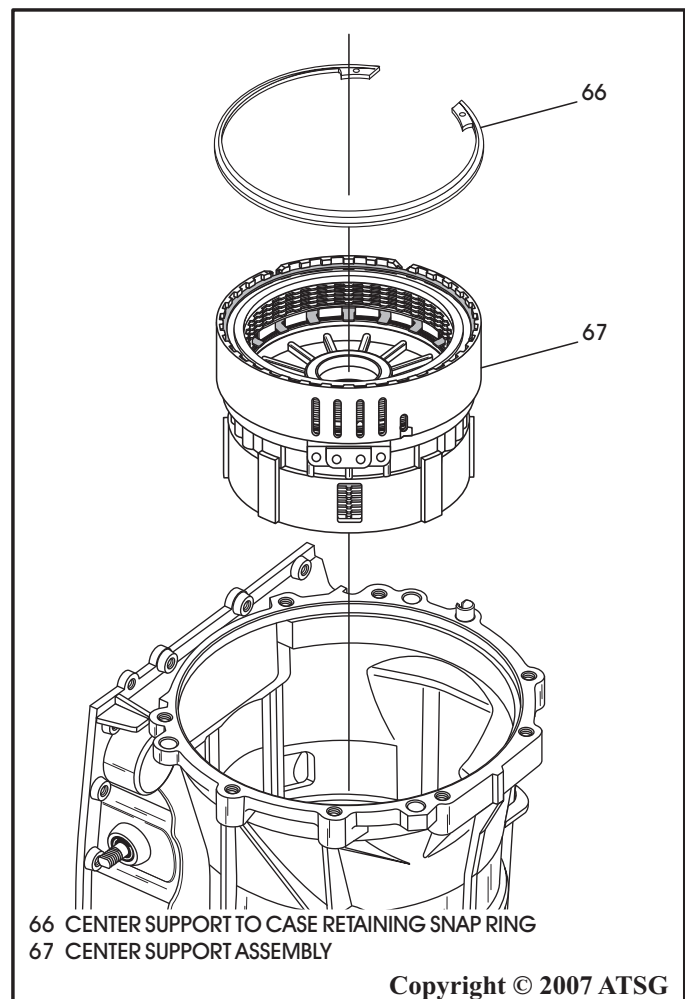

Figure 50
13. Remove the center support assembly, as shown in Figure 50, and set aside for the component rebuild section.